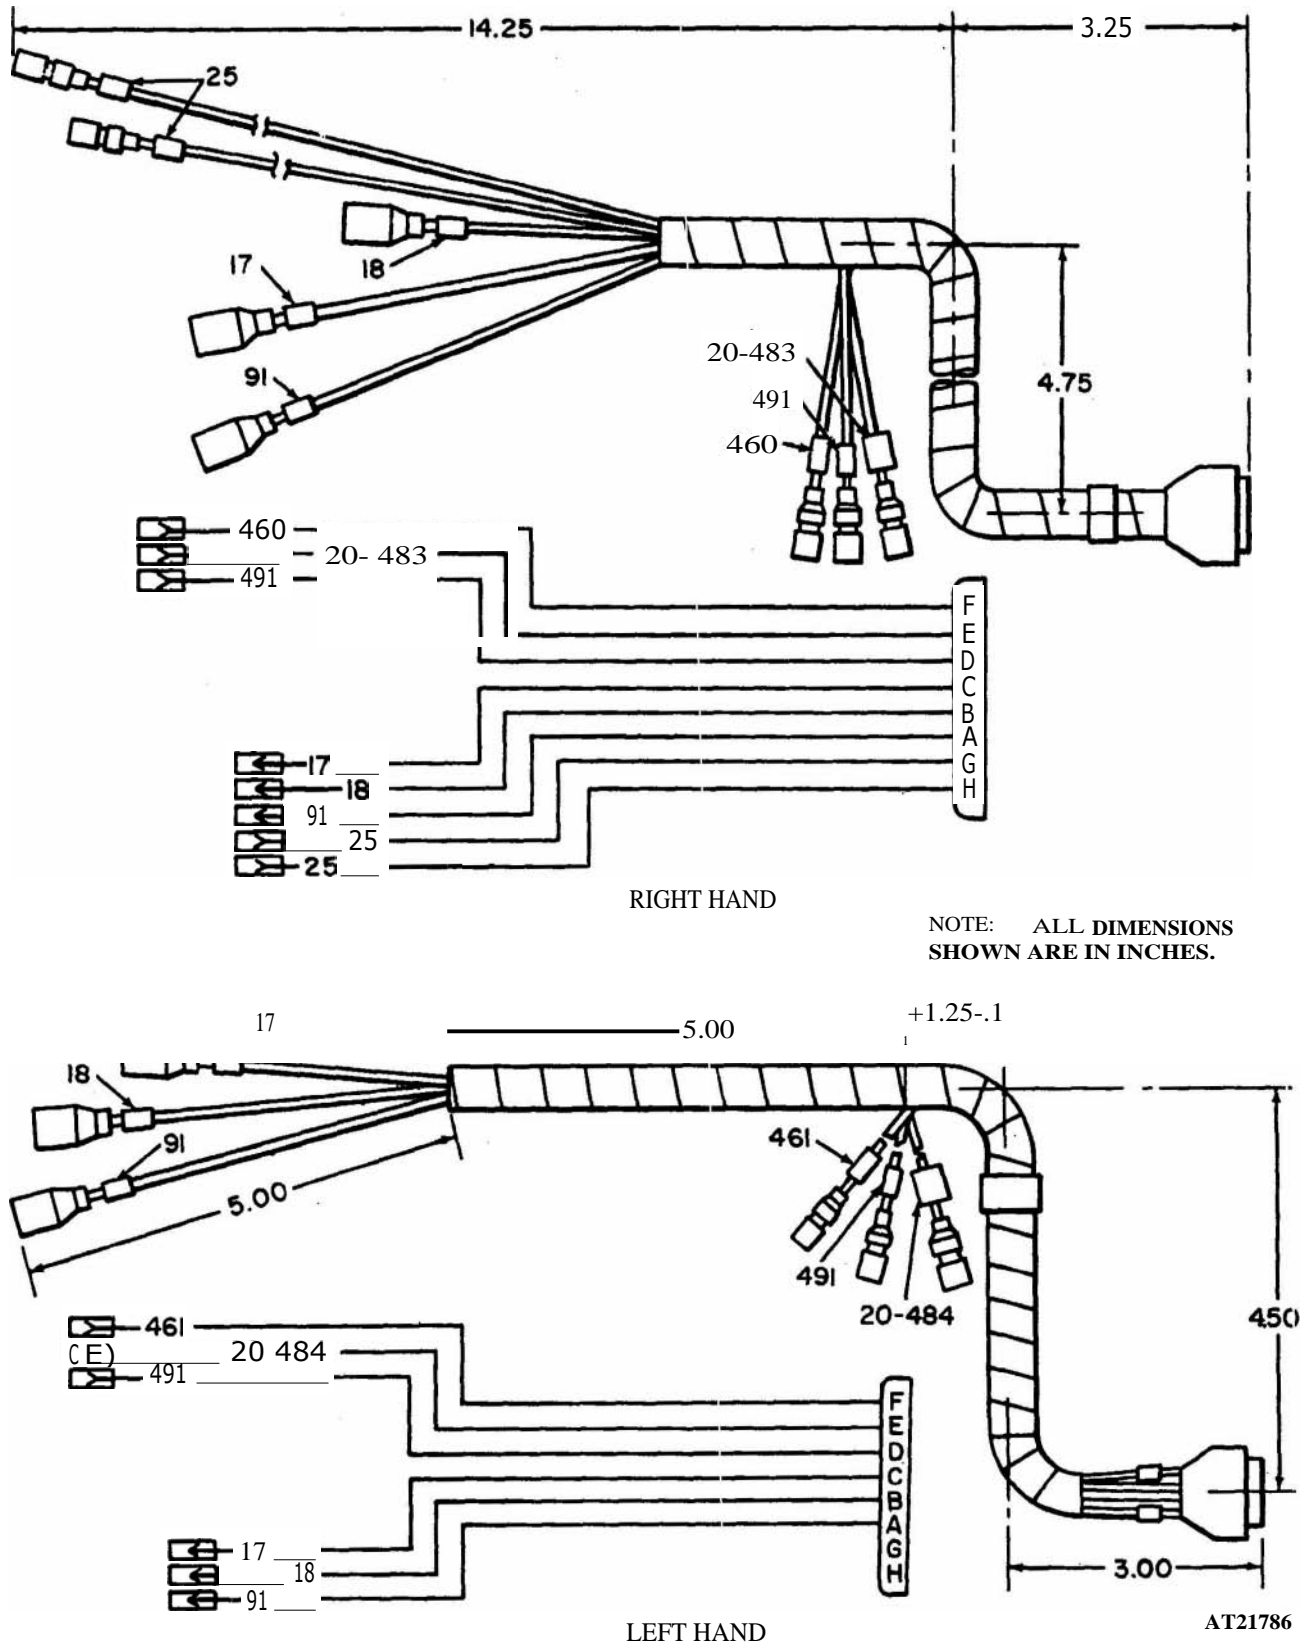

Figure 2-134. Tractor front fender harness.
b. *Repair.* Repairs shall be made in accordance with TB ORD 650 (fig 2-134).